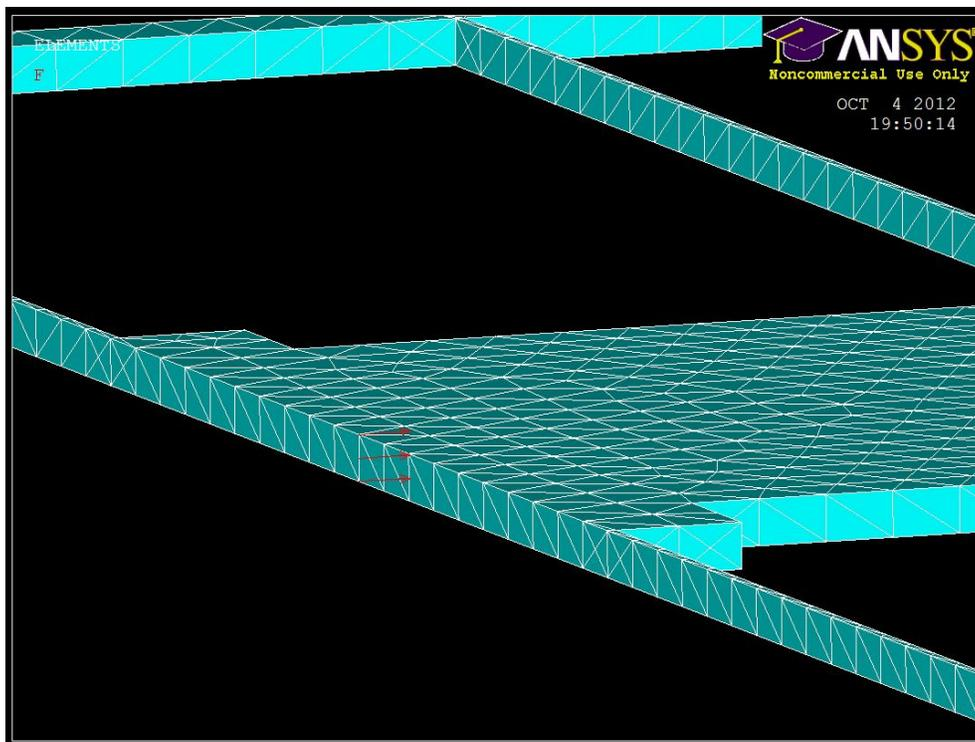

Fig 6.
- Use “F” to apply a force in the x-direction on the left side of the system. (see Fig. 6).